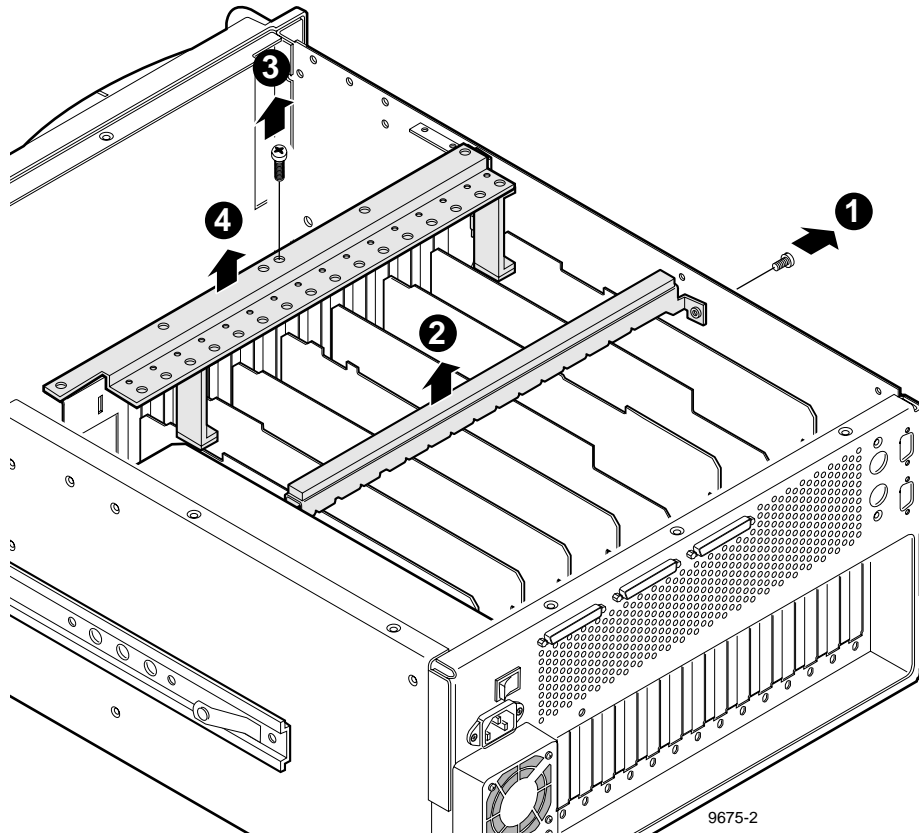

Figure 6-18. Removal of Board Retainer Brackets
3. Use the Torx tool with the T10 tip to remove the screws which secure both brackets to the Profile chassis (Figure 6-18).